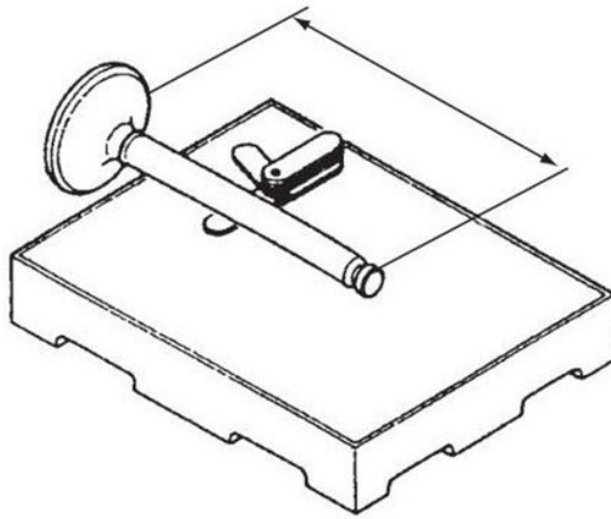

Figure 71. Valve Inspection Block
4. Place the valve stem on a flat inspection block or layout bed. Roll the valve until a gap can be observed between a portion of the valve stem and the surface of the block or bed. Use a feeler gauge to measure the gap (Figure 71). See Intake / Exhaust Valve and Guide chart for the service limit.